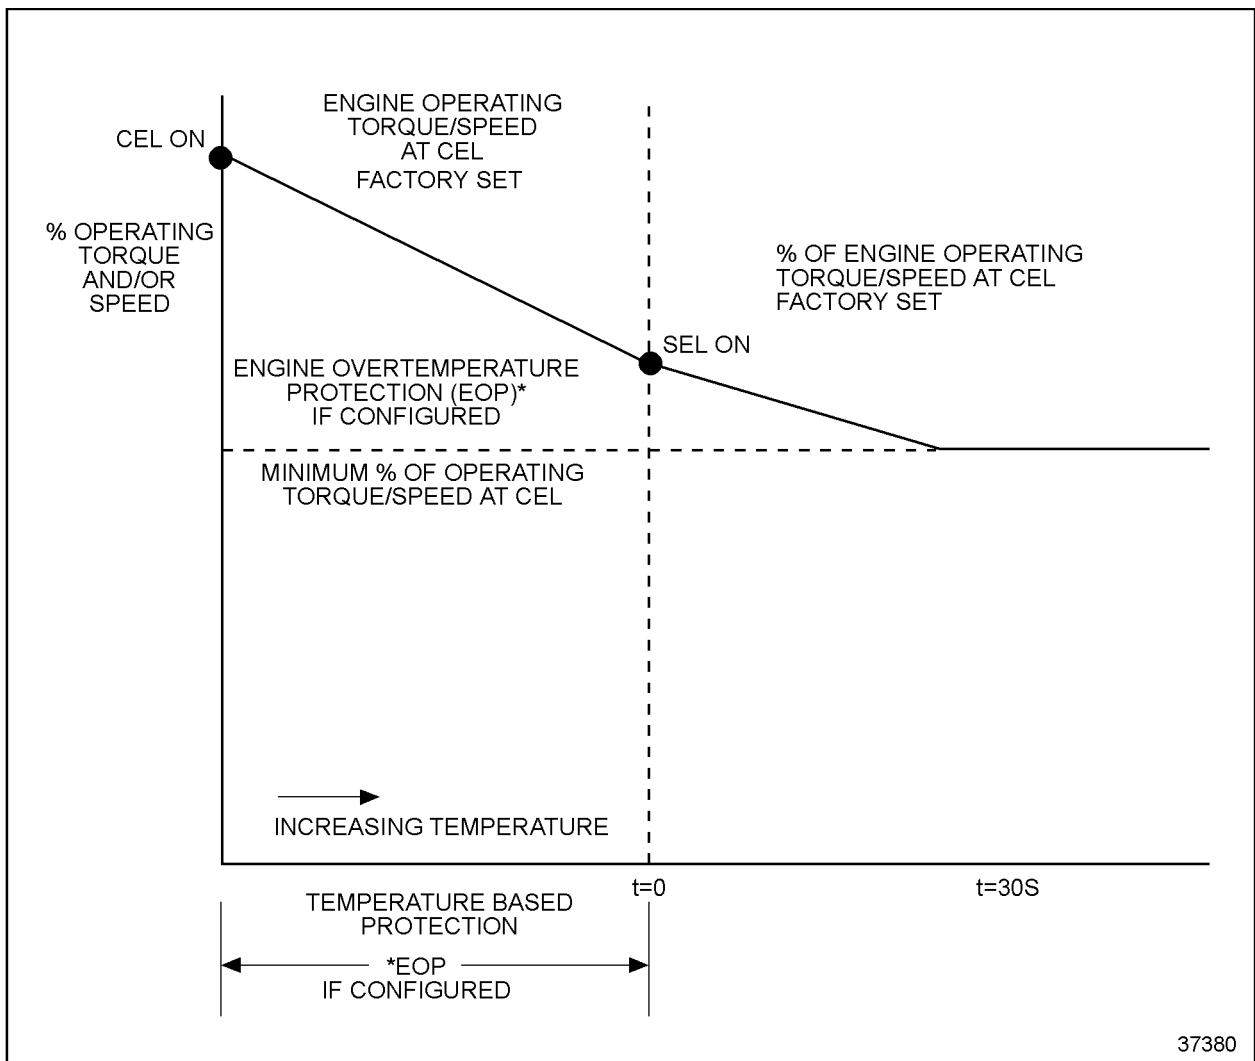

Figure 5-17 Engine Overtemperature Protection and Rampdown
- ☐ 30 second rampdown (see Figure 5-17)